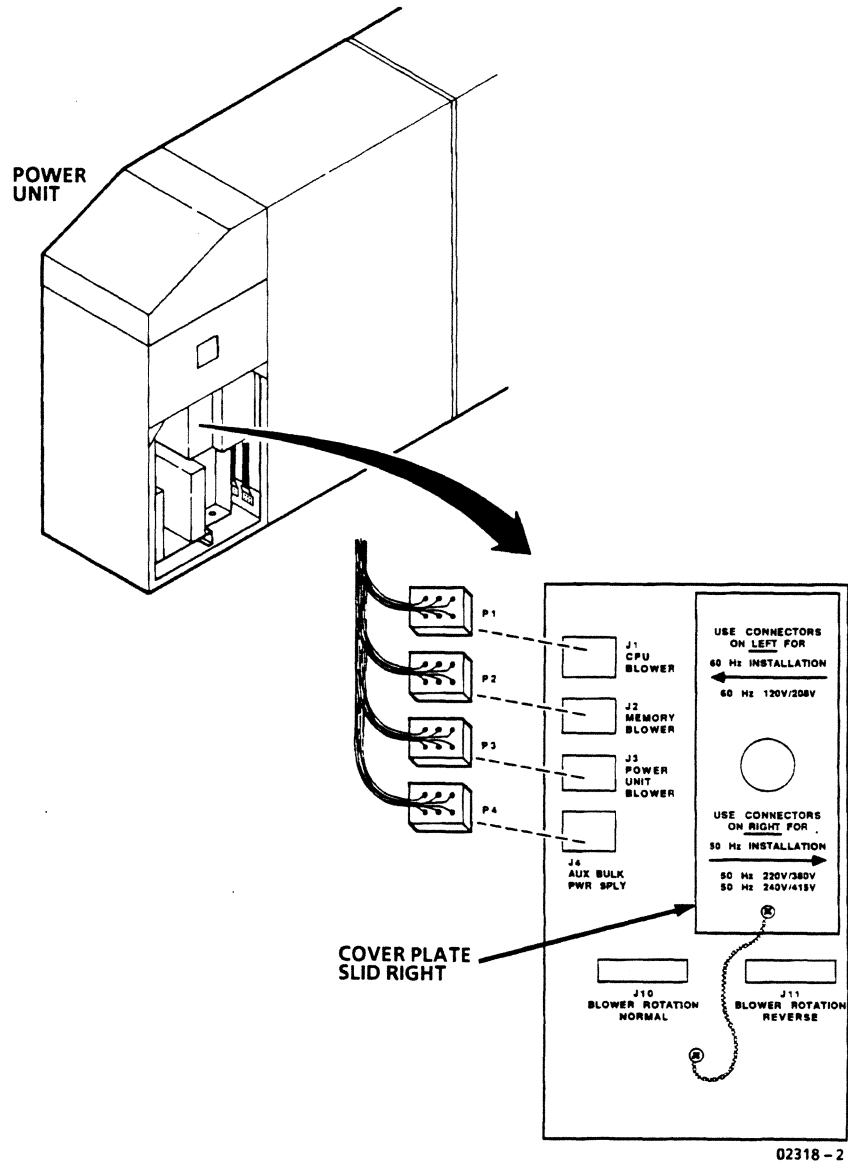

Figure 2-44. Power Unit 60-Hz Cable Connections
- ___ b. For 60-Hz voltage, connectors must be as shown in figure 2-44.